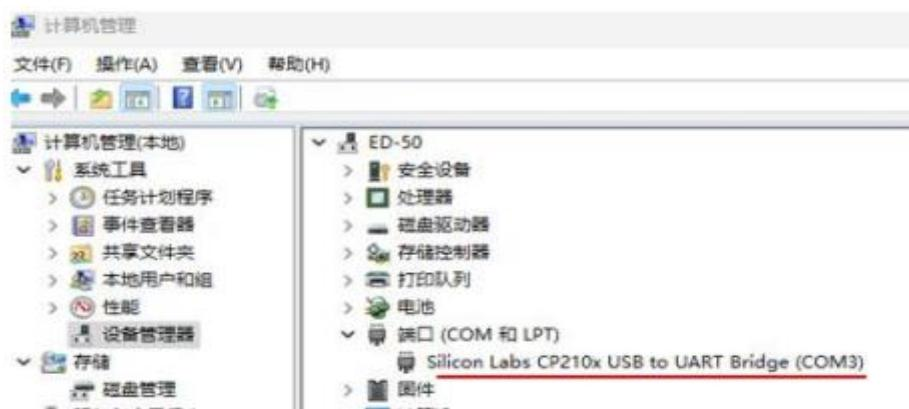

Figure 13: Query of Serial Port Number
5. After the installation is successful, the serial port number will be displayed at the port, as shown in Figure 13.